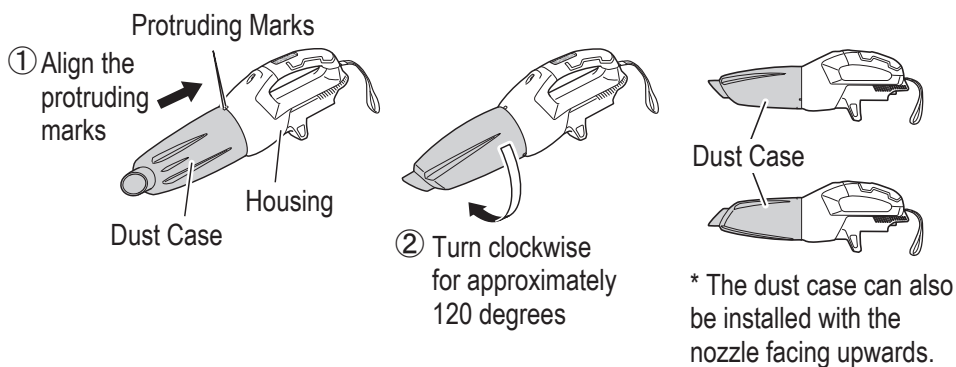

Fig. 10
- (5) Install the dust case (**Fig. 10**)